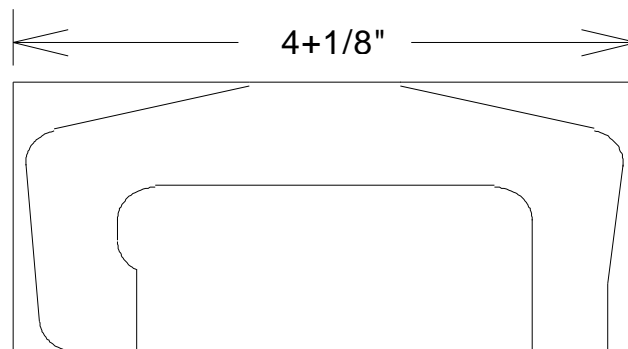

Fig. 1 Saw Stock to Length
02. Measure and cut frame blank from bar stock (see Figure 1) using power hacksaw.